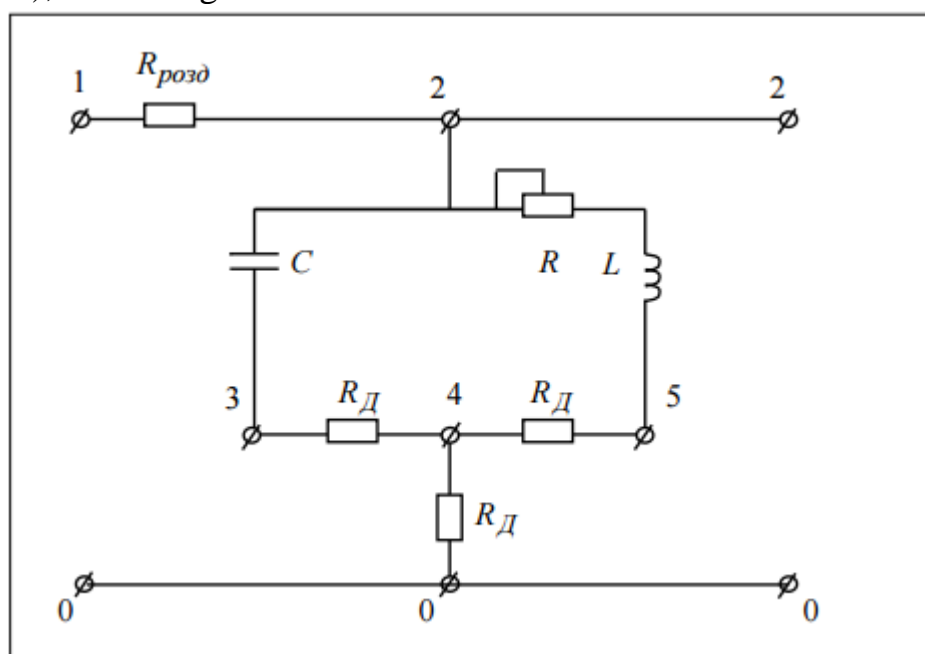

Fig.4.10
Laboratory settings consist of the power supply, clamps terminal, board (fig.4.10), measuring devices.
1. Collect the circuit (fig. 4.10). Set the minimum value of resistance R . Switch on the generator and oscilloscope. Set the input circuit voltage within the range of $0-10$ V. By changing the voltage frequency within the range of $20\text{Hz}-20\text{KHz}$, define the resonance frequency ω_0 , taking into consideration that the currents in that case have equal magnitudes and opposite phases.
The name and purpose of the work. Homework – the calculation of the circuit. Schematic diagrams of the investigated circuit (fig. 4.10). Tables 4.2-4.5. The graphs and vector diagram. Conclusions.